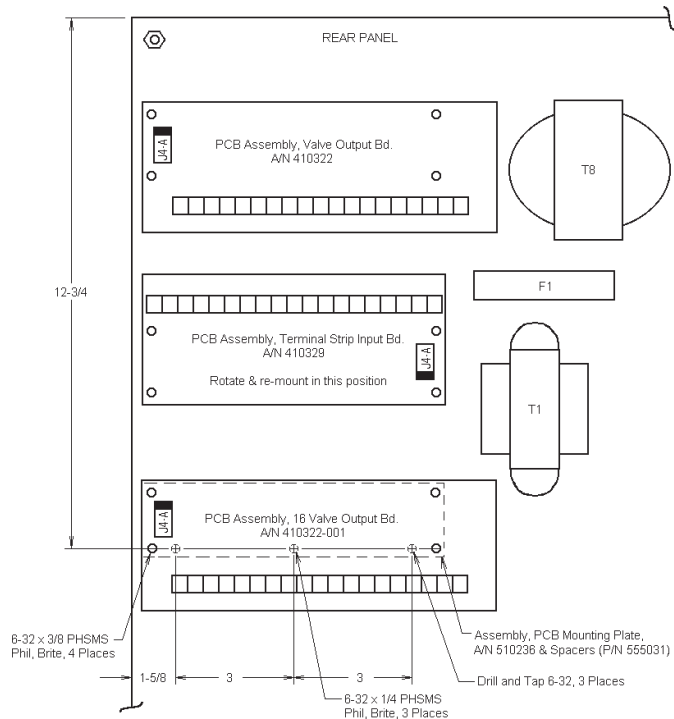

Figure 5-1. Mounting detail for “L”, “H”, “G”, or “U” Cabinet
3. Remove the four (4) screws holding the Terminal Strip Input Board (A/N 410329) to its mounting bracket. Rotate the board 180° (so the terminal strip is at the top) and re-mount the board using the same four (4) screws.
4. Drill and tap rear panel per Figure 5-1, be sure to vacuum or otherwise remove **ALL** metal chips before adding Mounting Plate (A/N 510236) to rear panel using 3 ea. 6-32 x 1/4 PHSMS, Phil Brite. Add extra spacer (P/N 555031) to each existing spacer (4 places) to offset PCB 1" from panel.
5. Mount 9-16 Valve Extension PCB (A/N 410322-001 or -003) to bracket (P/N 510236) using four (4) #6-32 x 3/8 PHSMS, Phil, Brite. See Figure 5-1.